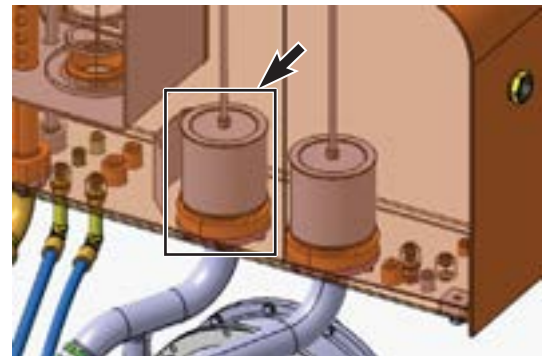

Figure 12
C. Plug the filter cap to location of suction filter. (Figure 12)